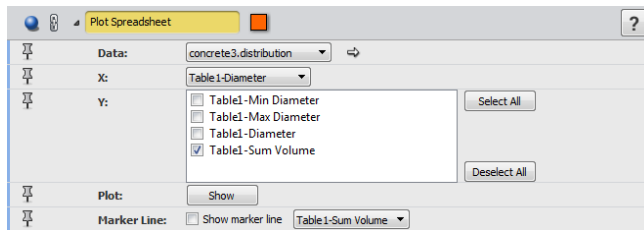
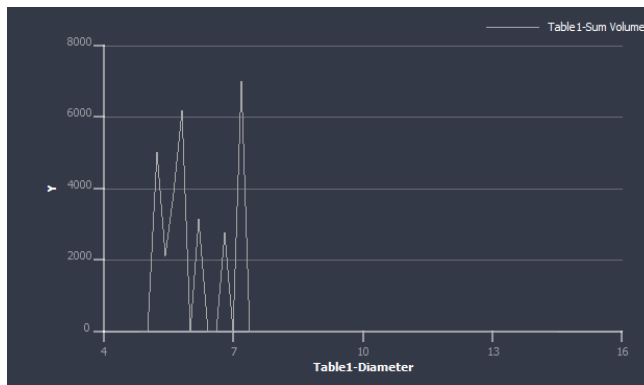

Figure 12.26: Parameter Settings of the *Plot Spreadsheet* Module
Figure 12.27: Fibers' Distribution Plot
3. Attach a *Plot Spreadsheet* module to the output and set the parameters as shown in Figure 12.26, and click **Show** in the *Plot* port (see Figure 12.27).